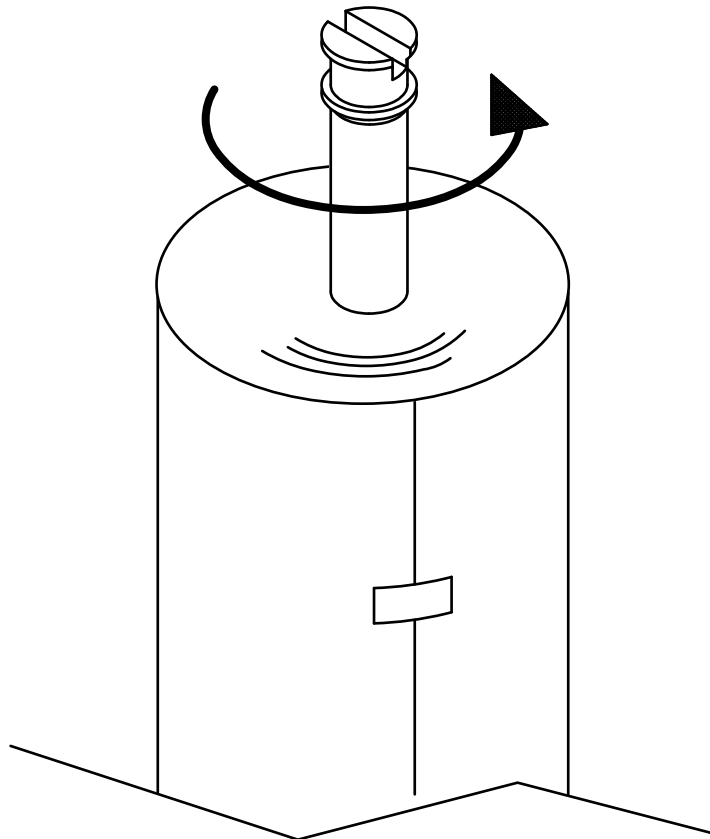

Figure 23. Manually freeing the take-up shaft.
3. Stand the roll on end with the flanged coupling pointing up. Rotate the take-up shaft counter clockwise (opposite to the direction that the paper was rolled on the machine. (See *Figure 23*.)